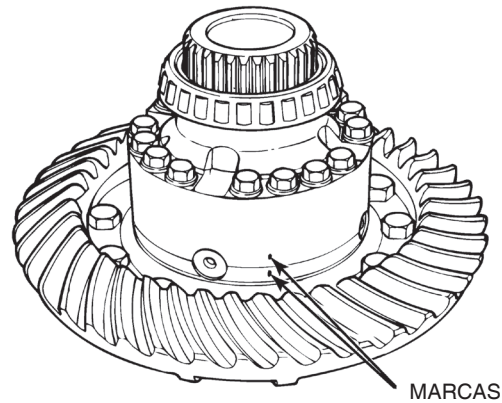

Figure 3.47
- Use a punch and hammer to mark the case halves. The marks will help you correctly align the case halves during assembly. Figure 3.47.